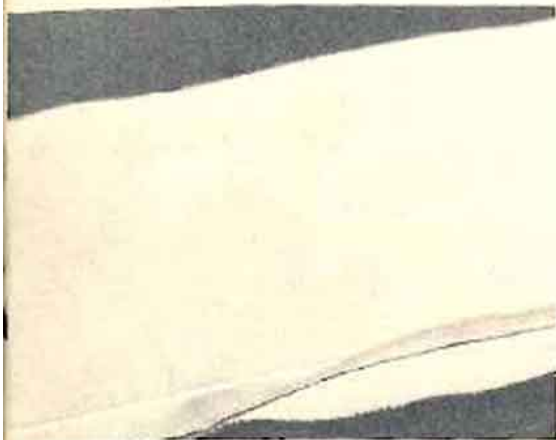

FIGURE 43
**FRENCH** — Place wrong sides of material together. Take  $\frac{1}{8}$ " seam. Figure 43. Press. Crease on line of stitching, Figure 44, enclosing the two edges and stitch taking a *full*  $\frac{1}{8}$ " seam. Figure 45. Seam used in blouses, slips.